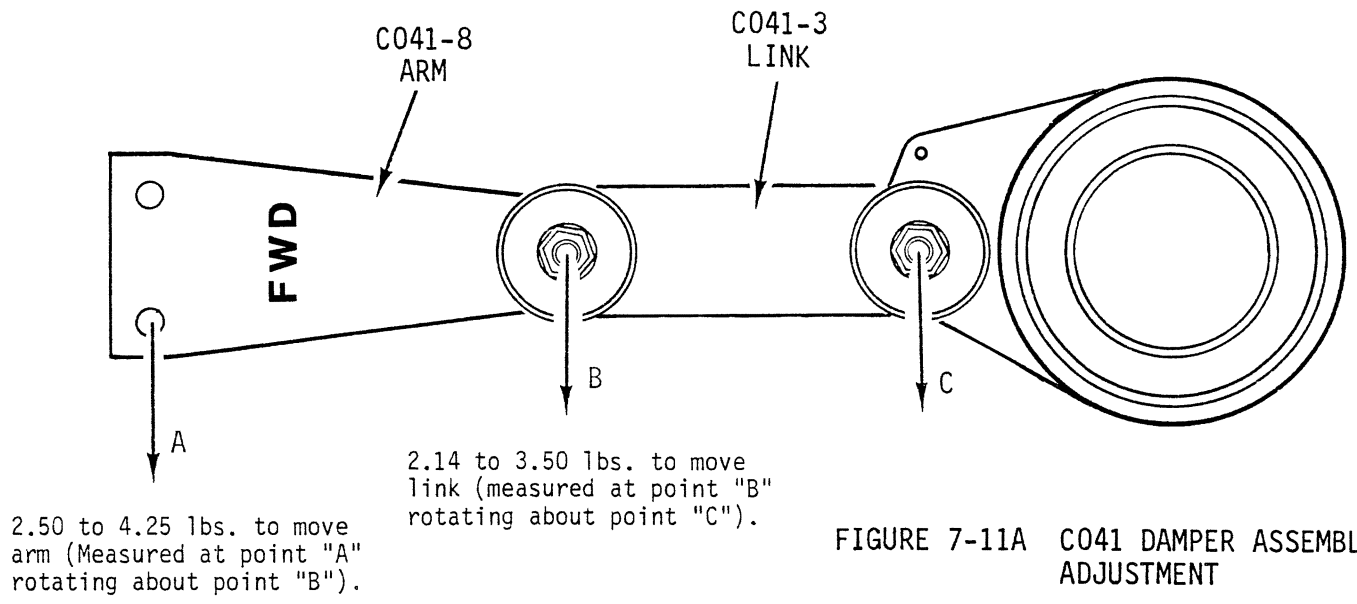

FIGURE 7-11A C041 DAMPER ASSEMBLY ADJUSTMENT
- f) Refer to Figure 7-11A. Hold C041-3 link and attach a spring scale or dead weight to one bolt hole in C041-8 arm. It should take 2.50 to 4.25 lb to move arm. Check bearing housing pivot friction with spring scale or dead weight at link bolt. It should take 2.14 to 3.50 lb to move link.